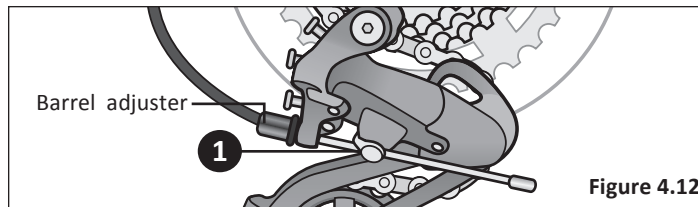

Figure 4.12
- 1 Shift the rear shifter to largest number indicated, disconnect the rear derailleur cable from the cable anchor bolt and place the chain on the smallest sprocket. **Figure 4.12**